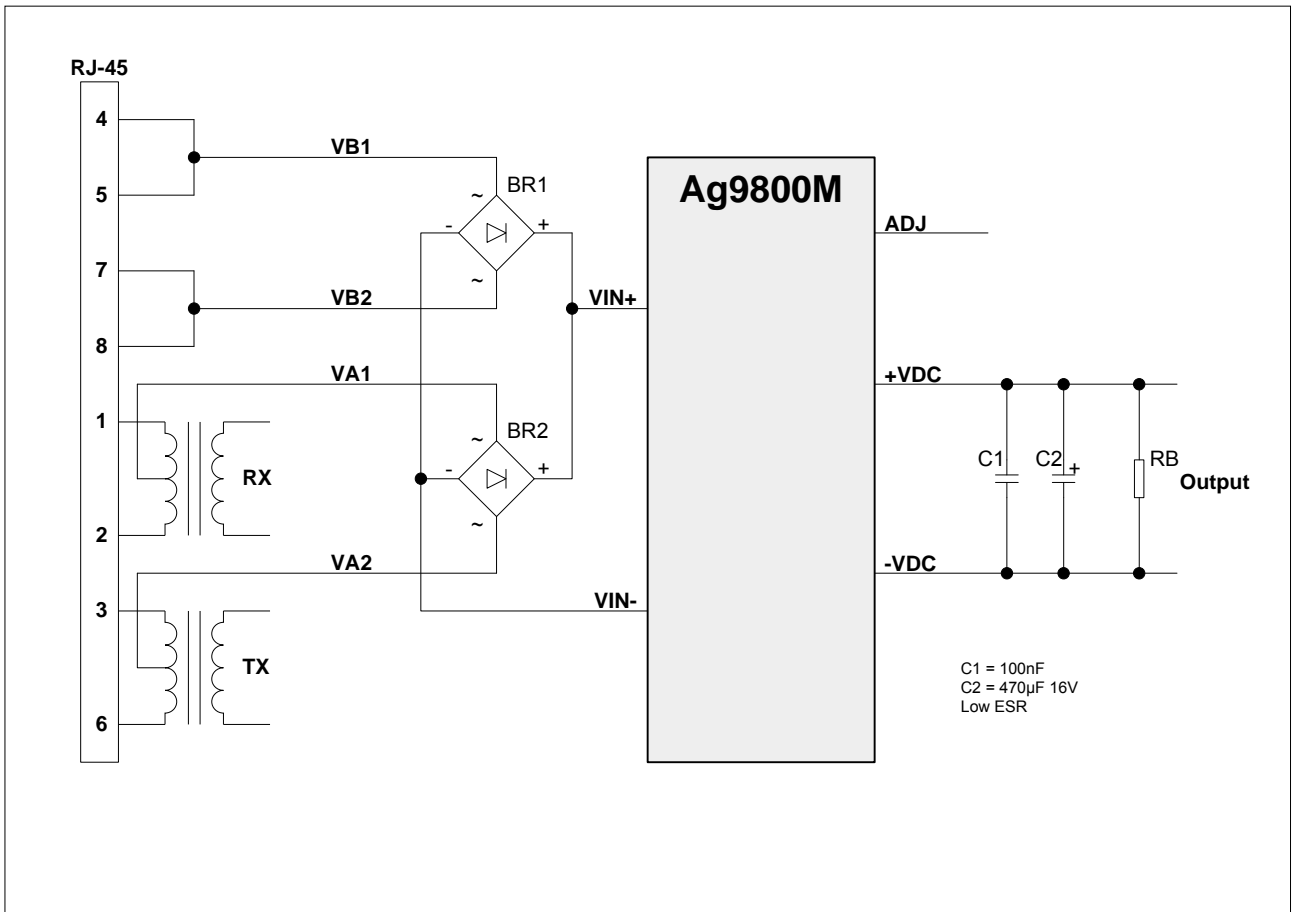
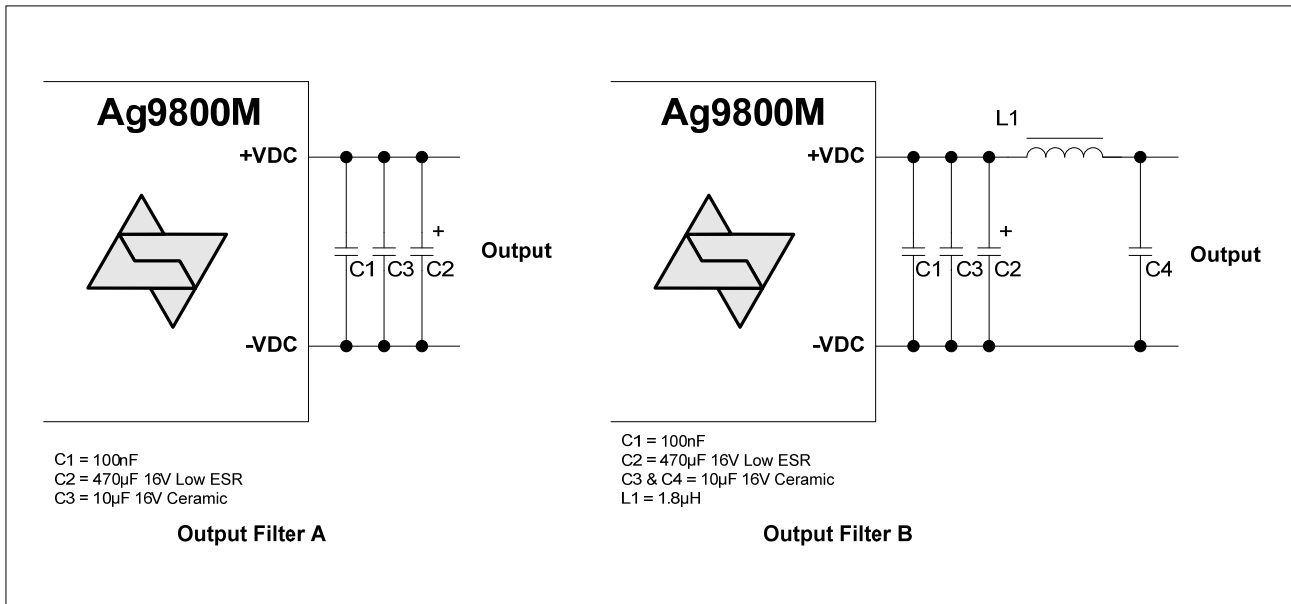
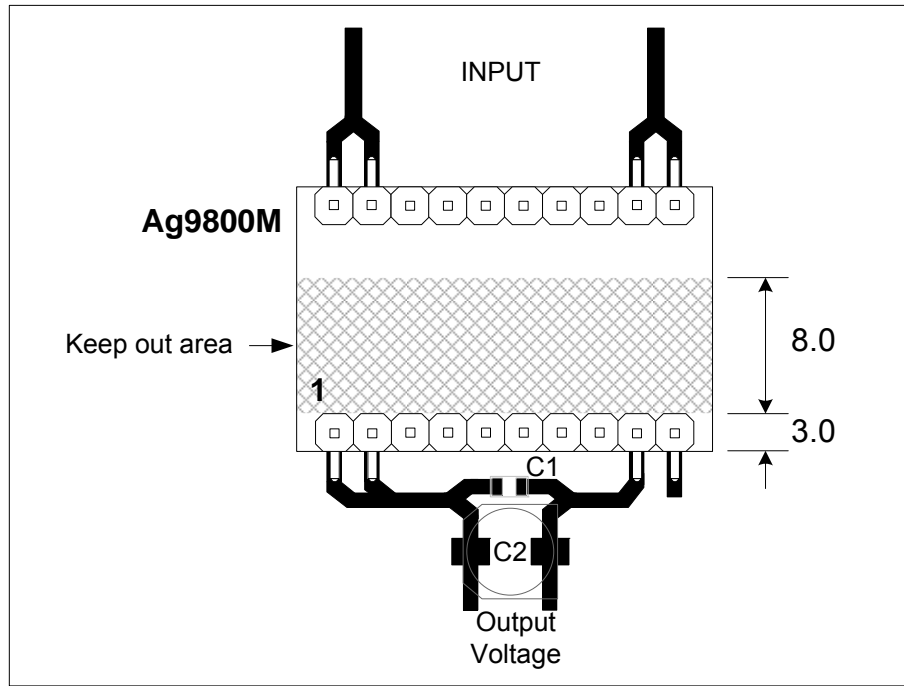

Figure 5: Typical Connection Diagram
Figure 6: Output Filtering
Figure 8: Layout Consideration
To meet the safety isolation requirements of IEEE802.3af section 33.4.1 a Powered Device (PD) must pass the electrical strength test of IEC 60950 sub clause 6.2. This calls for either a) 1500Vac test or b) 1500V impulse test. The Ag9800M is specified to meet the 1500Vdc impulse test. It is also important that the tracks on either side of the isolation barrier have at least a 3mm clearance, see Figure 8 and Section 7 for more information.
The Ag9800M requires minimal external components as shown in Figure 5: Typical Connection Diagram.
The Ag9800M configuration shown in Figure 5, offers basic output filtering for ripple and noise. On the 12V option, at maximum load this is ~160mVp-p; although on the 5V and 3.3V options the ripple and noise is much lower (see Section 11.3). Figure 6 shows two cost effective methods for reducing the ripple and noise, if required.
The simplest and cheapest solution is shown in Figure 6 - Output Filter A. This will reduce the ripple and noise to ~43mVp-p (12V option). Adding a PI filter, as shown in Figure 6 – Output Filter B, will take the ripple and noise level down to ~16mVp-p (12V option). A low ESR electrolytic is essential for operation below 0°C.
Figure 8 shows our suggested board layout for the Ag9800M, with reference to the basic output configuration shown in Figure 5.